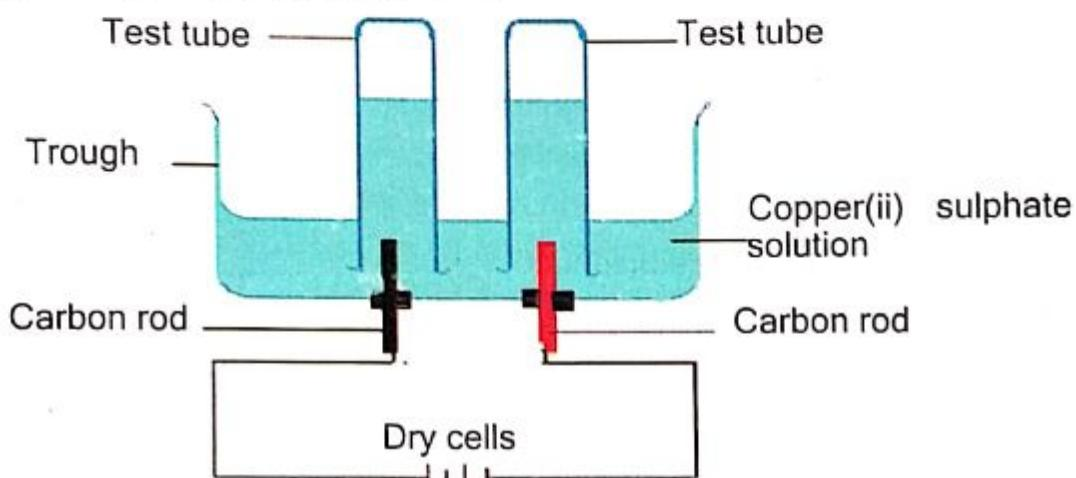

Fig. 1.11: Electrolysis of Copper(II) sulphate solution
- 1 Half-fill a beaker with copper(II) sulphate solution.
- 2 Set up the apparatus as in Fig. 1.11.